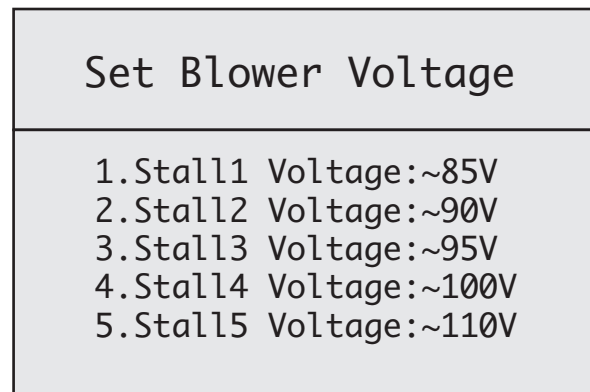

Figure 26
2. Using the **SCROLL DOWN** key, move down to option 4: "SET BLOWER VOLTAGE". Press **ENTER** again to move into the "SET BLOWER VOLTAGE" screen. **SEE FIGURE 26.**
- NOTE: Voltage can be decreased or increased only in increments of five (5).**